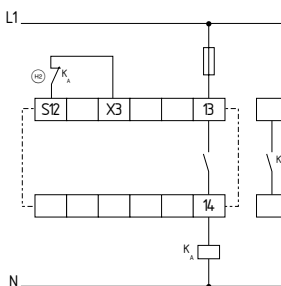

Fig. 16
**Single-channel control (see Fig. 16)**
- (H) = Feedback circuit and external reset in series